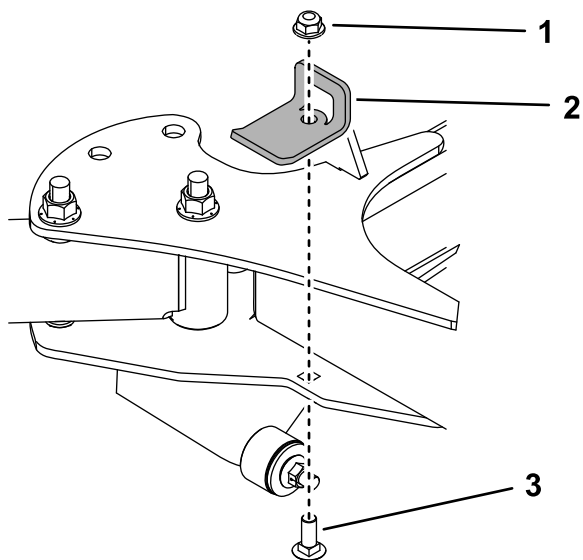

Figure 29
8. Remove the stop brackets (Figure 29).